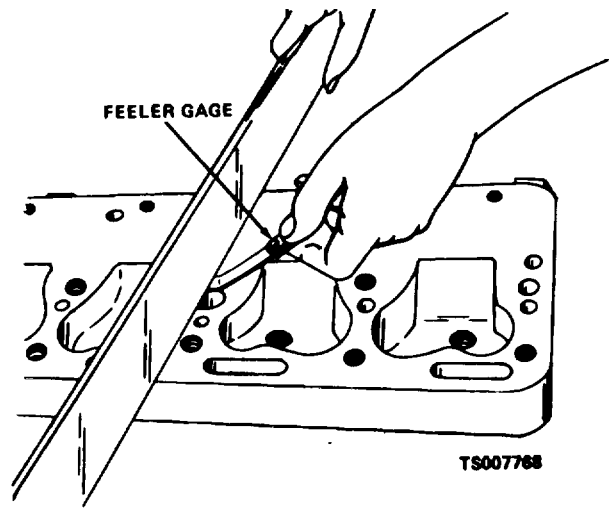

Figure 9-4. Checking Cylinder Head Flatness Crosswise.
d. Check out-of-flatness with straightedge and feeler gage; maximum permissible is .00075 inches per inch of width or length. Thus, for a cylinder head 16" long, maximum permissible lengthwise out-of-flatness is .012". Out-of-flatness should vary gradually and uniformly from end to end and side to side. Localized depressions or high spots should not exceed .003 See figure 9-4.